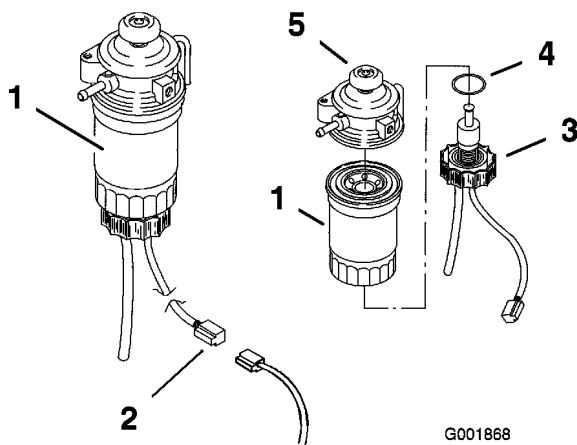

Figure 49
6. Remove the drain plug and discard the o-ring (Figure 49).
8. Install a new filter on by hand until the gasket contacts the housing, then tighten an extra 1/3 of a turn (Figure 49).